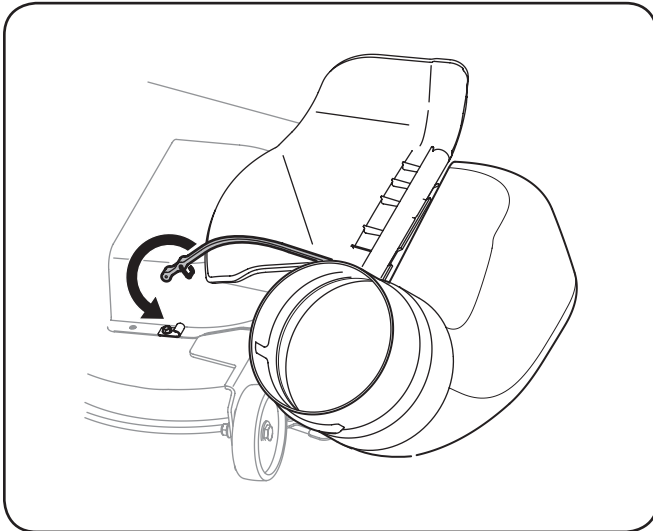

Figure 4-23
6. Attach the retainer strap on the discharge chute to the retainer clip on the deck. Refer to Figure 4-23.